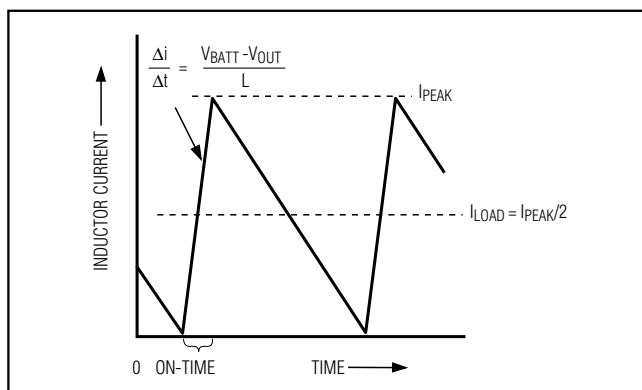

Figure 4. Pulse-Skipping/Discontinuous Crossover Point
where  $K$  is the on-time scale factor (Table 4). The load-current level at which PFM/PWM crossover occurs,  $I_{LOAD(SKIP)}$ , is equal to  $1/2$  the peak-to-peak ripple current, which is a function of the inductor value (Figure 4). For example, in the standard application circuit with  $V_{OUT1} = 2.5V$ ,  $V_{IN} = 15V$ , and  $K = 2.96\mu s$  (Table 4), switchover to pulse-skipping operation occurs at  $I_{LOAD} = 0.7A$  or about  $1/6$  full load. The crossover point occurs at an even lower value if a swinging (soft-saturation) inductor is used.
- 1) Determine the minimum (valley) inductor current ( $I_{L(MIN)}$ ) under conditions when  $V_{IN}$  is small,  $V_{OUT}$  is large, and load current is maximum. The minimum inductor current is  $I_{LOAD}$  minus half the ripple current (Figure 4).